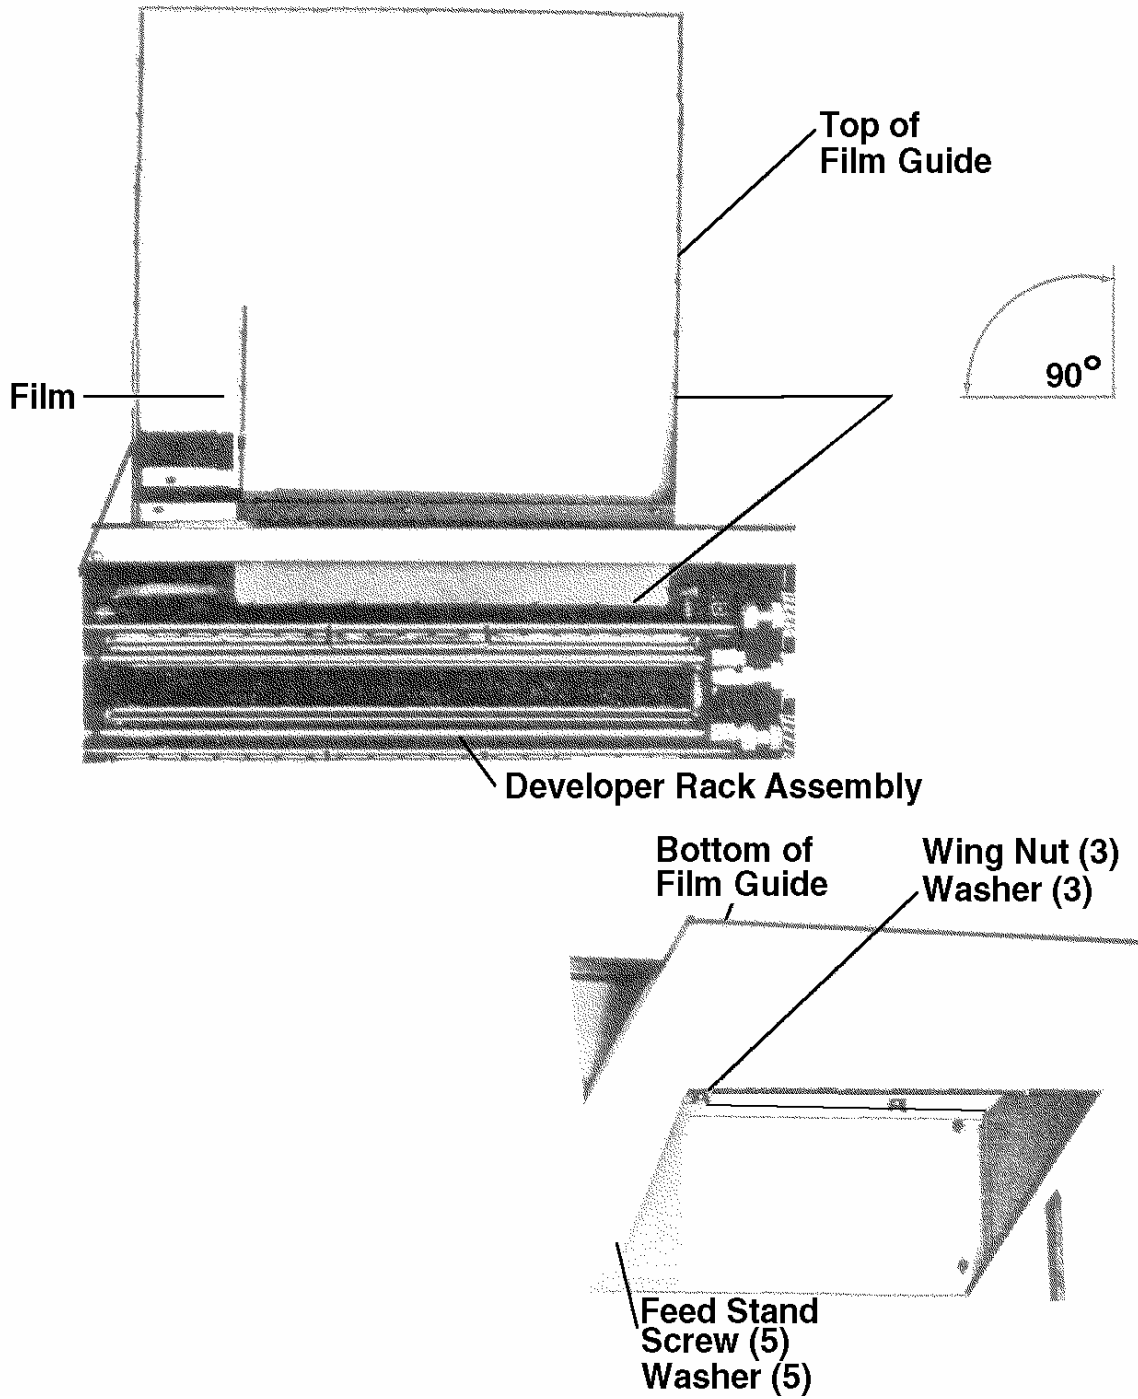

Figure 2-7. Film guide adjustment.
a. **Inspect the Film Guide Assembly (Feed Tray).** Refer to figure 2-7.
(1) Check the film guide assembly for squareness.